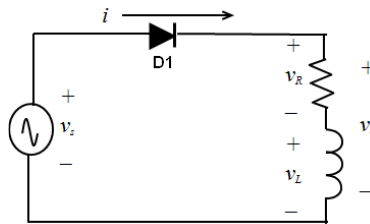

Figure 2.9
3. (a) Name the circuit in Figure 2.9
(b) Based on the figure 2.9 answer the following;
- ii. Sketch the input and output voltage waveform of Figure 2.9.